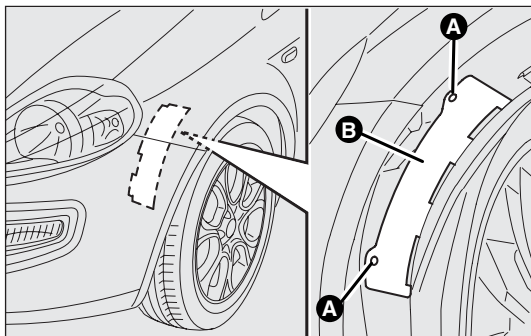

fig. 169
Front fig. 169
- ❑ turn the catch A-fig. 169, then lift off the access lid B;
- ❑ close the lid B-fig.169 then tighten the catch A.